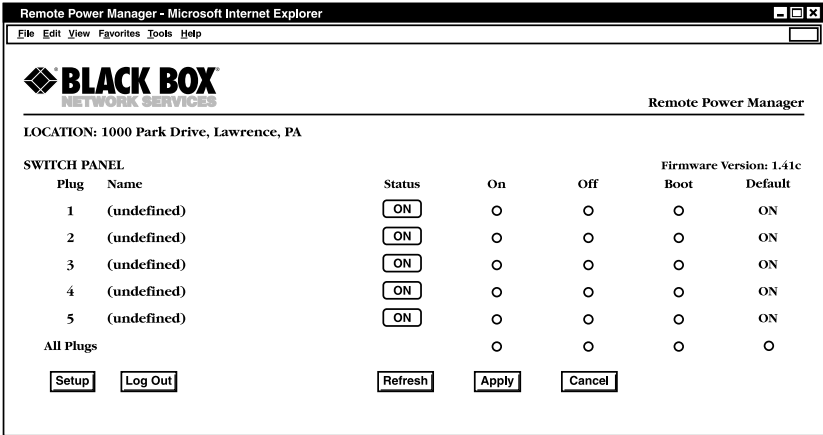

Figure 6-1. Plug Status menu—Web-browser interface for PS565A and PS565AE.
When you log onto the Remote Power Manager operating mode using the Web-browser interface, the first screen that appears after login is the Plug Status menu. The Plug Status menu (Figures 6-1 or 6-2) lists the current on/off status of the Remote Power Manager's switched outlets and provides a series of buttons that are used to control on/off/boot outlet switching.
2. When the Plug Status menu (Figures 6-1 or 6-2) appears, note that the screen includes a status field and on/off/boot controls for each of the Remote Power Manager's five or 16 switched AC outlets.